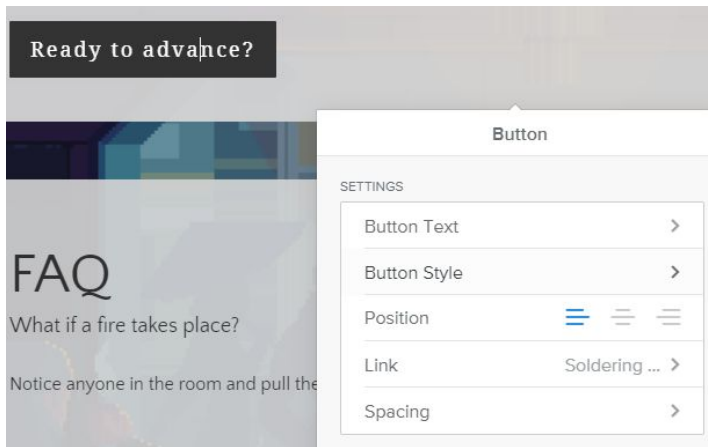

Figure 3. Button
5. Import item 4 (table and chair) into the scene.
6. Import item 1 (Wireless soldering iron) into the scene. Assign Pick Up script and set the information accordingly (Figure 3).
7. Import item 1 (Coil tin solder). Assign Pick Up script and set the information accordingly (Figure 3).